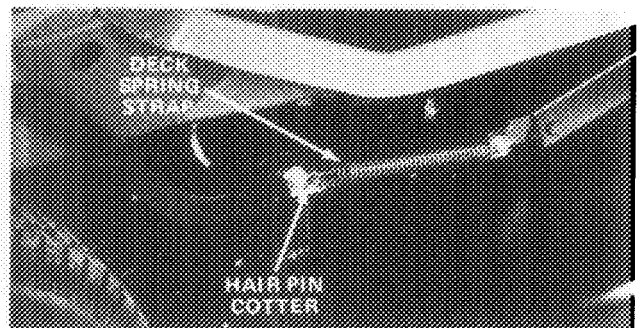

Figure 29
5. Pull the deck spring straps forward while pushing deck rearward and position the clevis pins through the strap holes. Install a flat washer and a hair pin cotter to secure the assembly (Fig. 29).